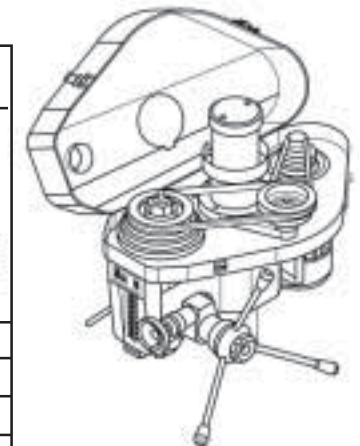

Fig. 4
A good rule of thumb is, the smaller the hole or depth of cut, and the softer the material to be machined etc, the faster the speed. To adjust the speed proceed as follows. 12 Speeds are possible, (see Fig. 4)
2. Loosen screw (130) and remove the pillar cap (129), store safely.
3. Raise the milling head until the pillar (132) is flush with the top cover (2).
4. Open the belt drive cover by releasing the two catches (14), and lift open the cover. (safety switch should operate to prevent accidental starting).
5. Loosen the locking screw (46), pull the motor (33) inwards to slacken the 'V' belt (29), remove the belt and store safely.
6. 'V' belt (21) can now be repositioned to desired location.
7. Refit 'V' belt (29), refer to table Fig. 4 for correct position.
8. Tension 'V' belts by pushing motor outwards, if necessary, a screwdriver or similar can be used as a lever between the head box (47), and the motor mount (40).